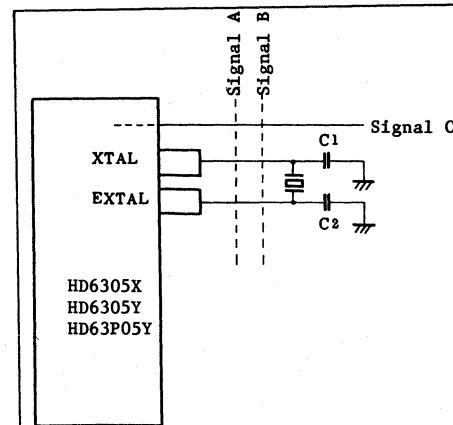

Fig. 3-11 Example of Circuit Causing Trouble in Oscillation
- (1) Locate crystal, ceramic resonator, and load capacity C1 and C2 as near the LSI as possible. (Induction of noise from outside to the XTAL and EXTAL pins may cause trouble in oscillation.)
- (2) Wire the signal lines to the neighbouring XTAL and EXTAL pins as far apart as possible.
- (3) Board design of situating signal lines or power supply lines near the oscillator circuit as shown in Fig. 3-11, should not be used because of trouble in oscillation by induction. The resistor between the XTAL and EXTAL, and pins close to them should be $10M\Omega$ or more.